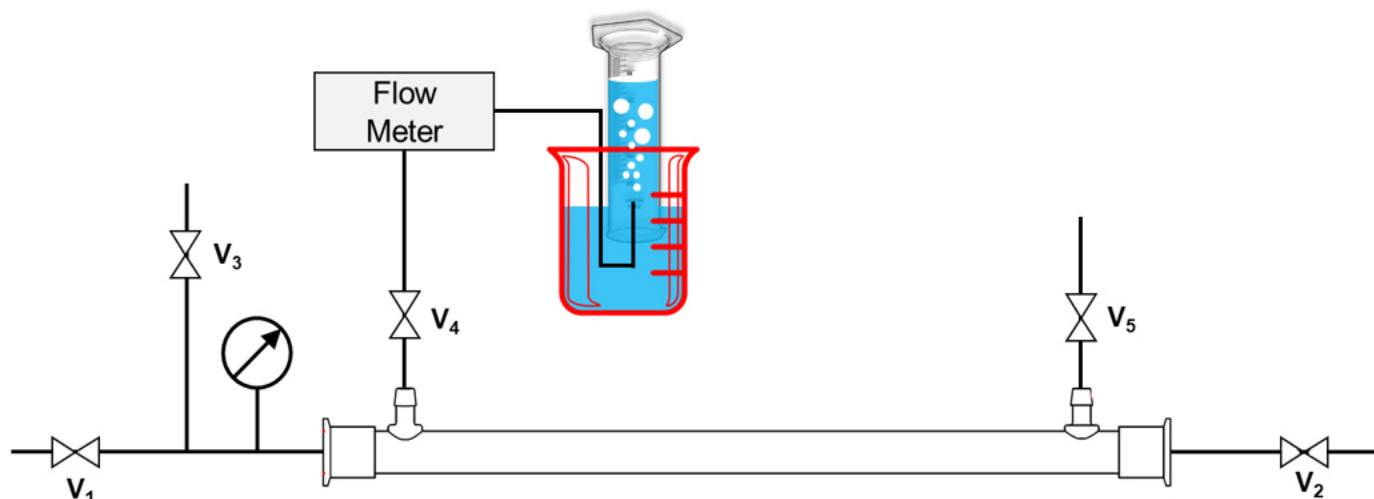

Figure 5: Diffusive Flow Test schematic.
1. A system setup for performing the Diffusive Flow Test is shown in Figure 5.